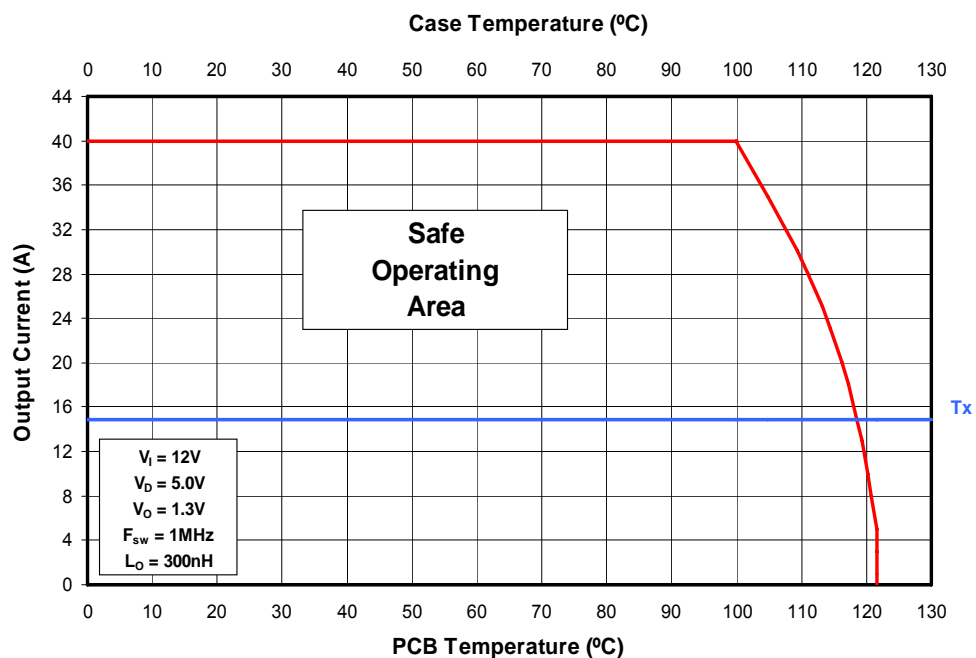

Figure 2 Safe Operating Area Curve
3. Then, add the sum of the SOA temperature adjustments to the  $T_x$  axis intercept in figure 2